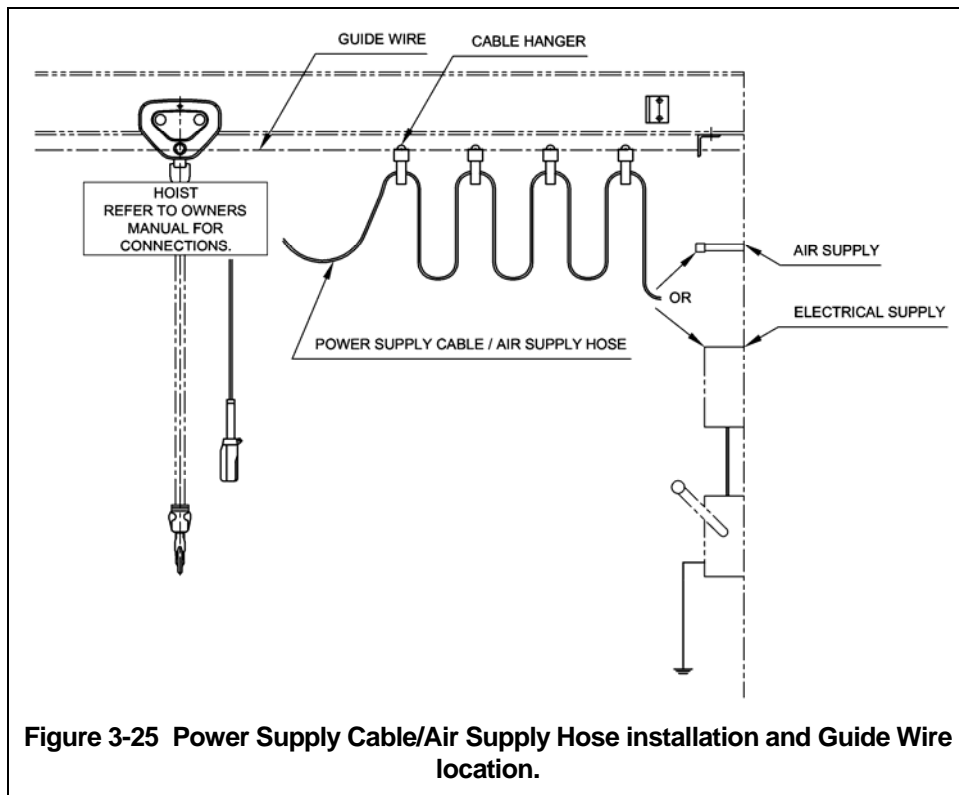

Figure 3-25 Power Supply Cable/Air Supply Hose installation and Guide Wire location.
- Install a guide wire system parallel to the beam. (See Figure 3-25)